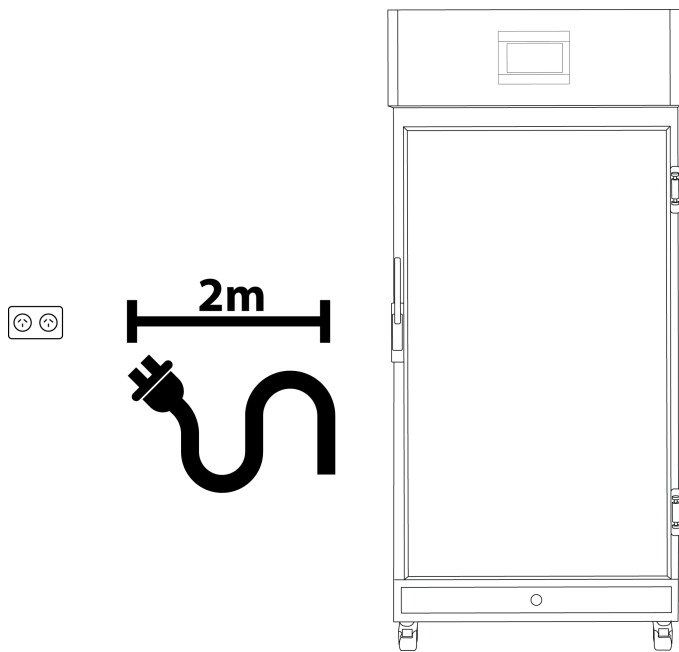

Fig 1. Suitable cord distance (2m)
- All Humiditherm cabinets include a 2.5m removable mains power lead with a three pin plug and female IEC plug. Ensure the product is reasonably distanced from the power supply. **(Fig 1)**